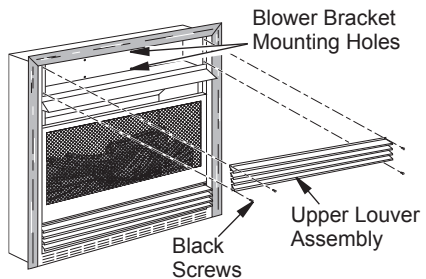
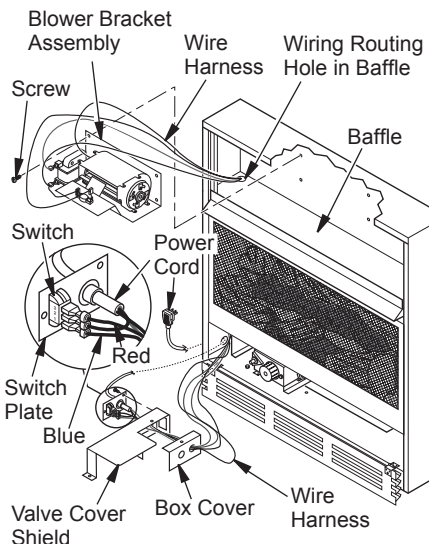

Figure 15 - Removing Upper Louver Assembly
Figure 17 - Installing Blower Bracket Assembly
2. Remove 4 screws from louver assembly (see Figure 15). Save these screws.
3. Note the wire locations on back of AUTO/OFF/ON switch. The terminals on back of switch are numbered 1, 2, and 3. Carefully remove red wire from terminal 1 and blue wire from terminal 3. Black wire can remain on middle terminal 2 (see Figure 17).
sembly to the outer casing with 4 #10 screws provided (see Figure 17).
6. Route the wire harness through the hole in left side of baffle. Pull wire harness through lower opening above where the valve shield was removed. (see Figure 17).
7. Insert the 4 wire harness into one of the round holes in the rear of the valve cover shield and through the rectangular hole in the front of shield (see Figure 17).
9. Install the switch plate on the valve cover shield with 2 #10 screws provided (see Figure 17). Reinstall the valve cover shield. Route power cord out of the cabinet by inserting it through the bushing on the outer casing (see Figure 17). Plug fan kit into 120-Volt grounded power supply and test operation. **Note:** When switch is in the AUTO position, the fan will start after the heater has run for a few moments. The fan will continue to run for several moments after the heater has been turned off. When switch is in the ON position, the fan will run until turned to OFF. Reinstall upper louver assembly and hood if previously removed, (see Figure 15, page 13). Close lower louver door.
8. Reinstall upper louver assembly and hood if previously removed, (see Figure 15, page 13). Close lower louver door.